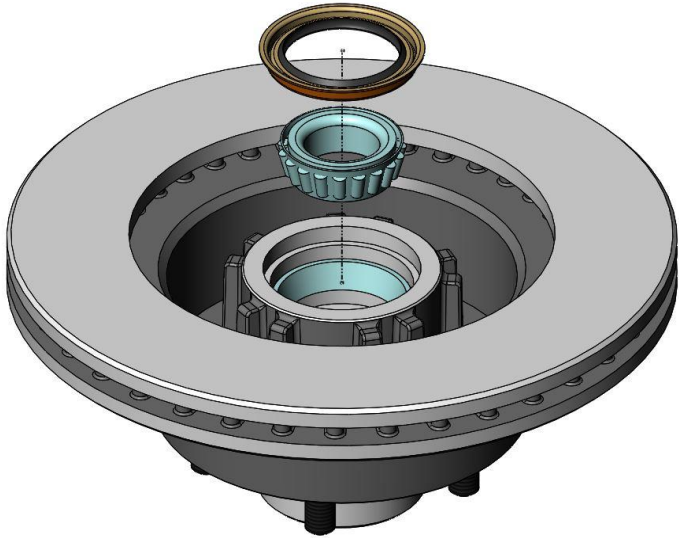

Figure 5 – Inner Wheel Bearing Installed
8. The wheel bearings can now be packed and installed. We recommend the use of Lucas Oil “Red-N-Tacky” Grease (**Available At Master Power Brakes P/N: ACNLG12**) or other high quality NLGI rated wheel bearing grease. Once the inner bearing is installed, tap the inner seal in at this point. Figures 5 below shows the bearing and seal being installed.